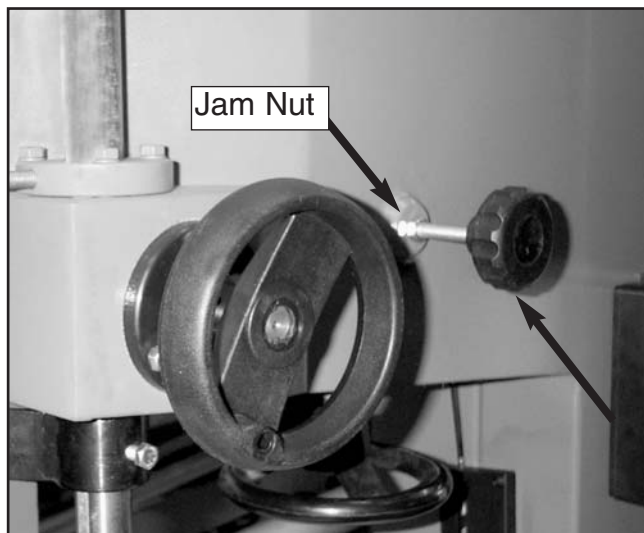

Figure 12. Loosen the jam nut. Turning this handwheel clockwise will move the blade further into the saw body.
2. If the blade does not ride centered on the crown of the wheel, then spin the upper wheel by hand and adjust the tracking hand-knob shown in **Figure 12**, until the blade is positioned correctly.